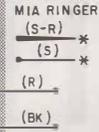

Fig. 1—1702B (MD) Telephone Set Connections Using 25P4 (MD) Dial and 4010D Network
1.01 Reissued to add nontechnical changes to Fig. 1, 2, and Table B.